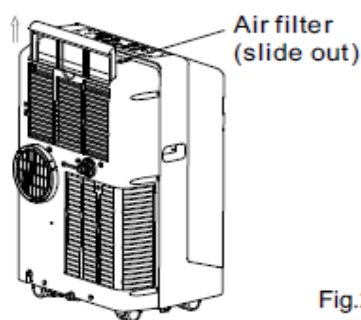

Fig.26
- Switch off the air conditioner and pull out the upper air filter from the unit (Fig.26).